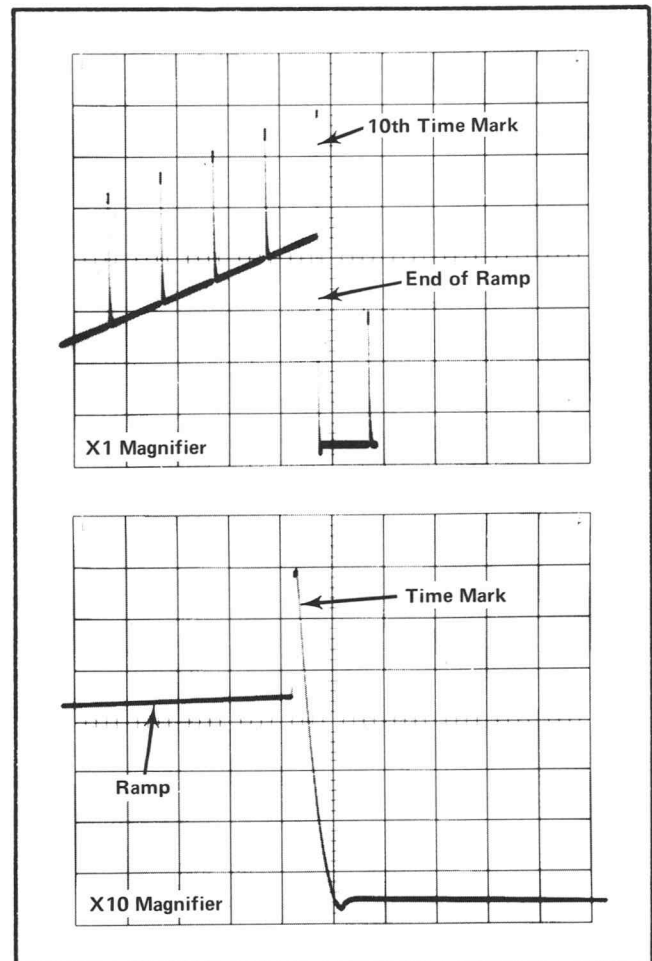

Fig. 5-6. Typical display for 10  $\mu$ s Ramp Duration Adjust, Step 7.
a. Display ramp and time marks as shown in Fig. 5-6.